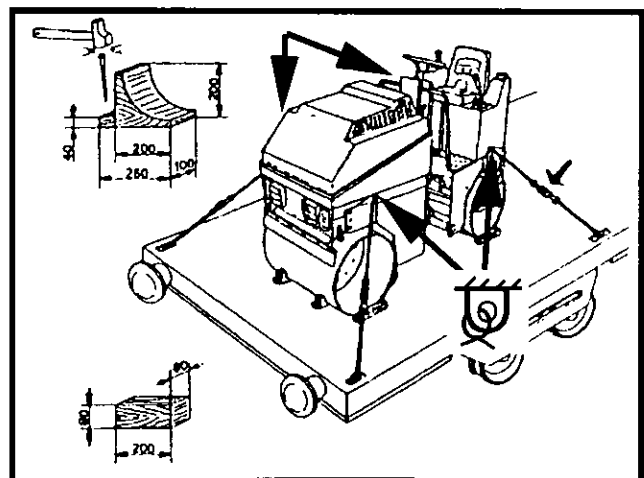

Figure 4-24 Tie Down Points
4. Attach tie down chains or other appropriate equipment to tie down points marked with symbol , refer Figure 4-24.